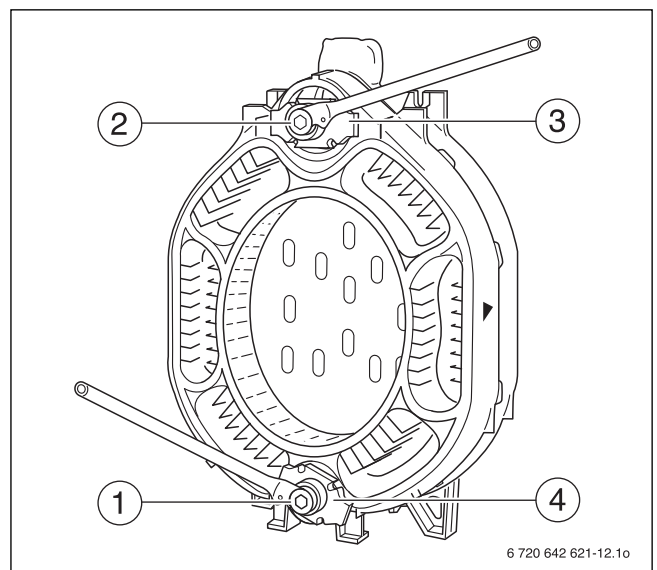

Fig. 17 Using the boiler assembly tool
- ▶ Only boiler assembly tools size 2.3 may be used (Fig. 4, page 11 and Fig. 17, [1 and 2]).
- ▶ Push the compression units (Fig. 17, [3 and 4]) onto the tie rods (Fig. 4, [4], page 11).